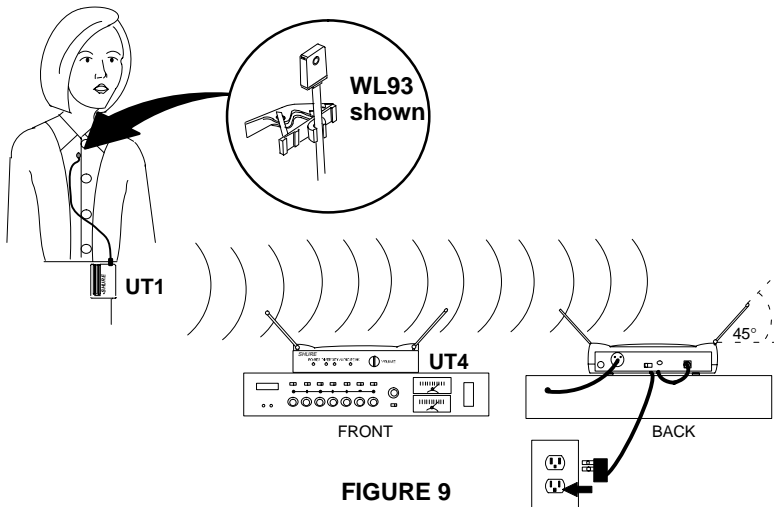

FIGURE 9
1. Refer to Figure 9. Connect the supplied ac power adapter to the DC INPUT connector on the back of the receiver. Insert the adapter's cable into the power cable retainer. Plug the adapter into a wall socket or other ac power source (use PS20 for 120 Vac, 60 Hz power; use PS20E for 230 Vac, 50 Hz power). The green POWER light on the receiver will glow.
3. Press the WL93, WL184 or WL185 lavalier microphone into the mounting clip and attach it to your garment. Do not cover the microphone with your clothing, and keep it approximately 8 to 12 inches below your chin. See Figure 9.